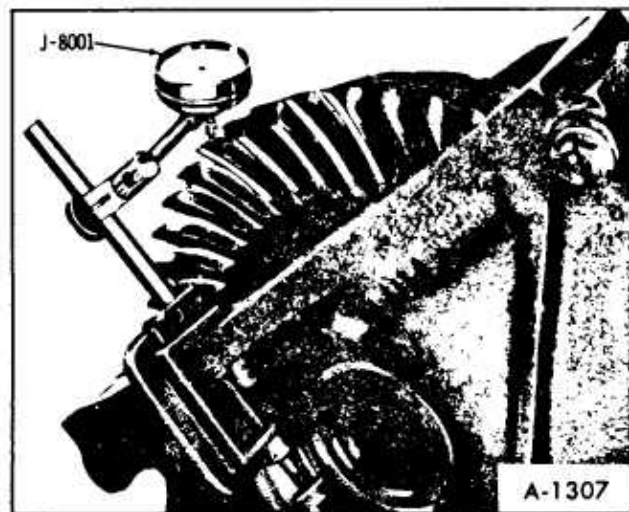

Figure 54—Checking Ring Gear To Pinion Gear Backlash
1. Rotate differential case several times to seat bearings, then mount dial indicator as shown in Figure 54. Use a small button on the indicator stem so that contact can be made near heel end of tooth. Set dial indicator so that stem is in line as nearly as possible with gear rotation and perpendicular to tooth angle for accurate backlash reading.